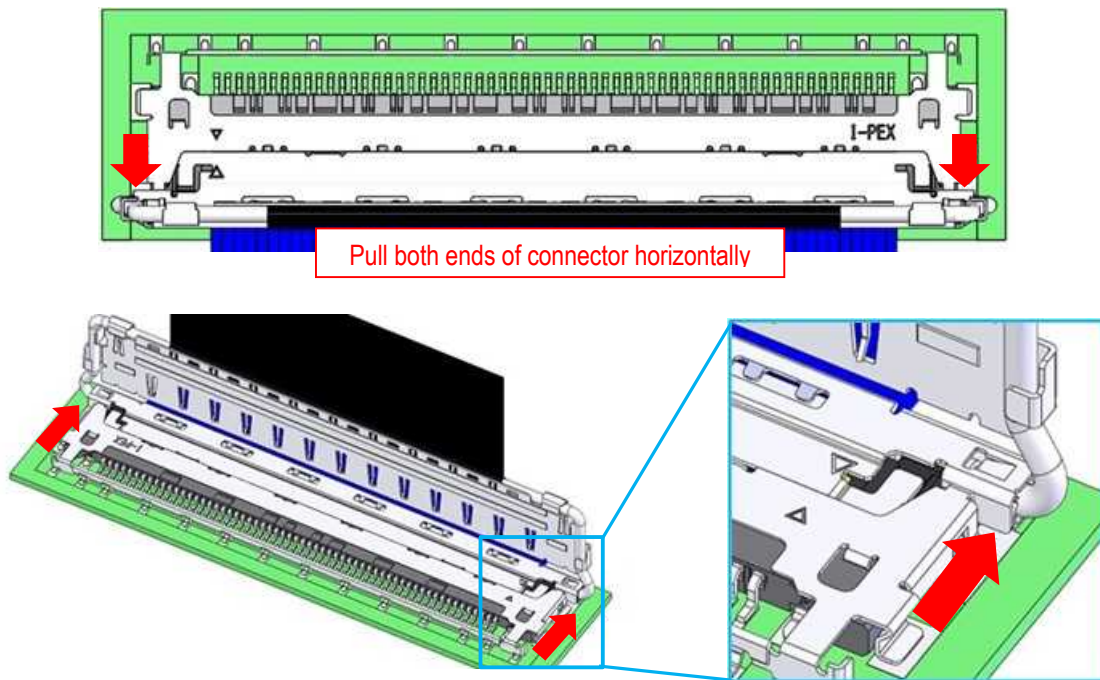

Fig.17
- ② As shown in Fig.17, hold both ends of the Plug connector and withdrawal it parallel.